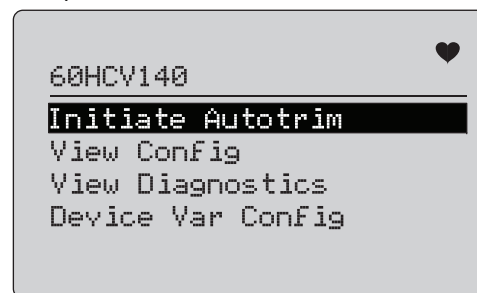

Figure 58. HART Comms. Menu
2. Go to **Modify Setup > HART Comms**. See Figure 58 for the available options.